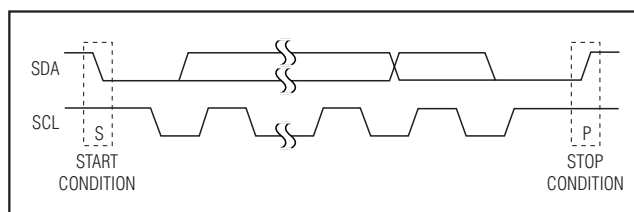

Figure 2. START and STOP Conditions
Each transmission consists of a START condition sent by a master, followed by the MAX7319's 7-bit slave address plus R/W bit, then 1 or more data bytes, and finally a STOP condition (Figure 2).
Both SCL and SDA remain high when the interface is not busy. A master signals the beginning of a transmission with a START (S) condition by transitioning SDA from high to low while SCL is high. When the master has finished communicating with the slave, the master issues a STOP (P) condition by transitioning SDA from low to high while SCL is high. The bus is then free for another transmission (Figure 2).